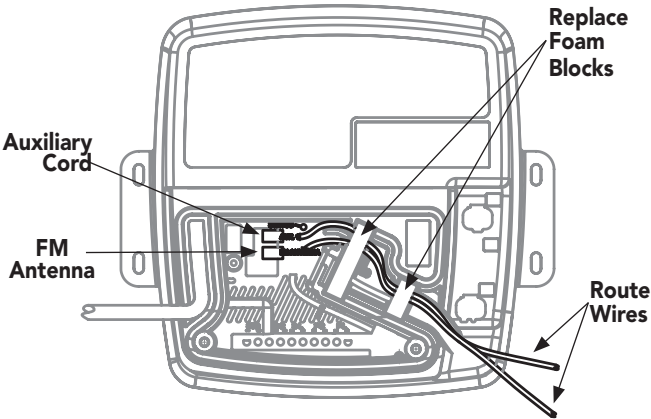

Figure 9
- 1. Plug the included FM antenna into the antenna output and route the wire through the strain relief channel as illustrated (Figure 9). For best reception, fully deploy the antenna in a vertical orientation outside of the AudioSteam housing.
- 2. Connect a 1/8" (3.5 mm) stereo audio cord (not included) to the auxiliary output, and route the cable through the strain relief channel as illustrated (Figure 9). Connect the free end of the audio cord to a mobile device or digital music player.
- 3. Replace the foam block inserts (Figure 9).